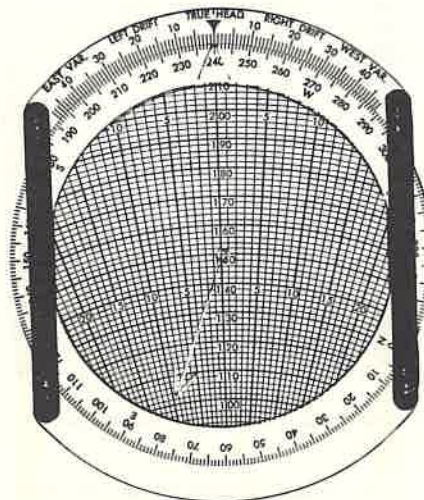

FIG. 3b
6. Obviously step No. 5 is incorrect since the True Course has been placed under the True Heading Index, but this may be done to obtain a first approximation of the True Heading (T.H.). Under this condition read the drift angle (9 1/2 deg. L.D.) at the end of the wind arrow. (See Fig. 3b).